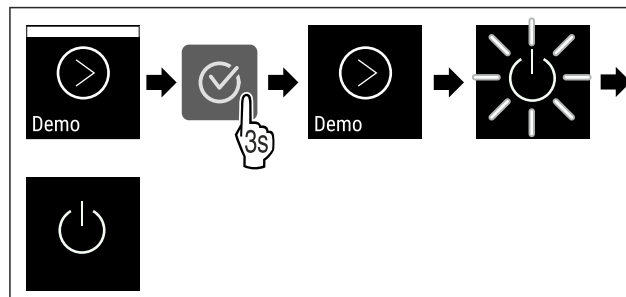

Fig. 100
- ▶ Carry out steps (see Fig. 100) .